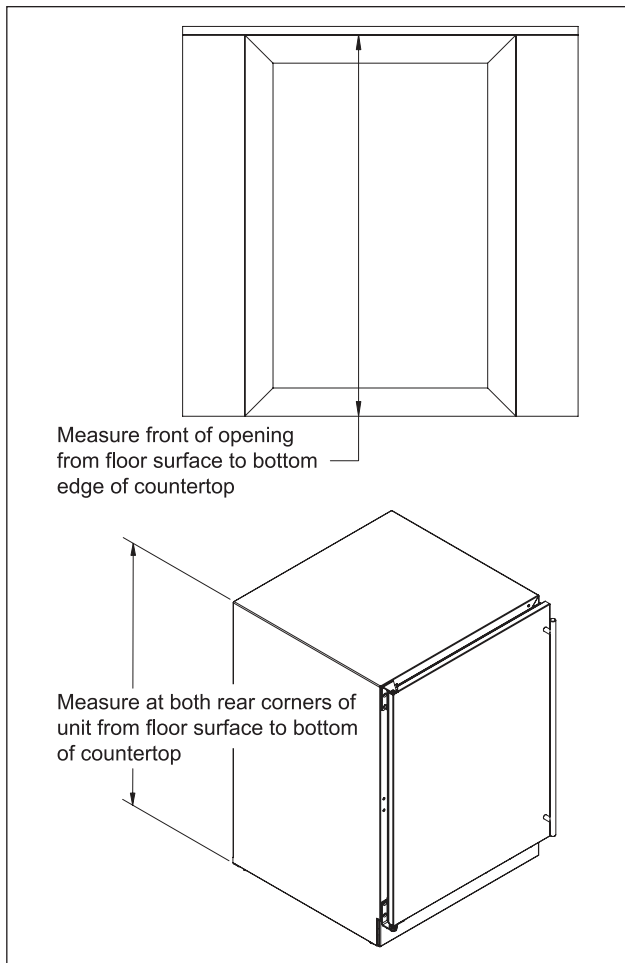

Figure 4. Leveling the Unit
2). With all surfaces in the installation opening square and level, refer to Figure 4 on page 7 and perform the following steps to level the unit: